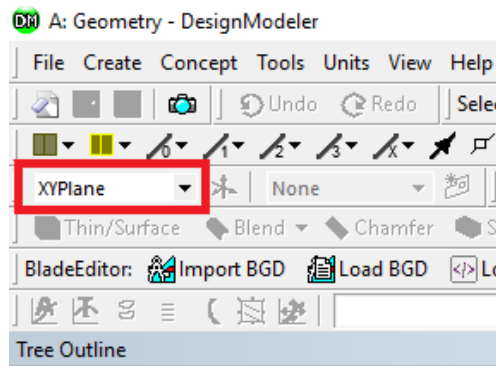

Figure 3: Location of Change Plane box
5. As shown in Figure 3, click XYPlane ▼ → YZPlane.